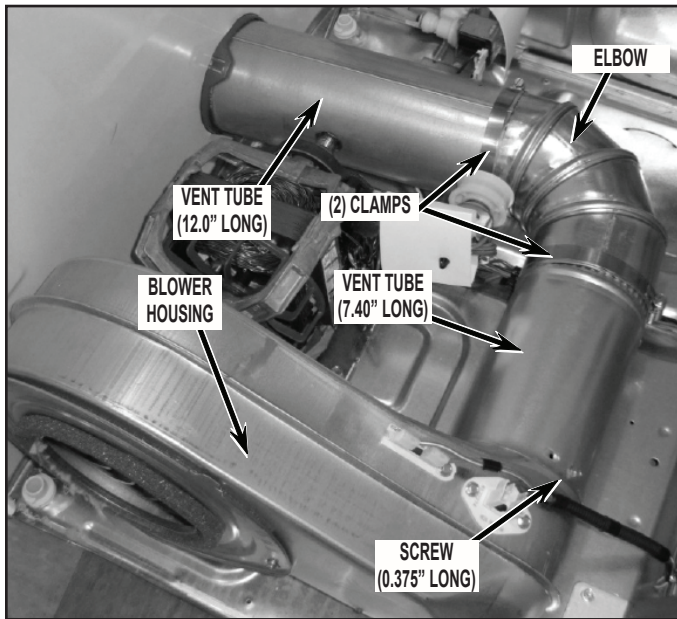
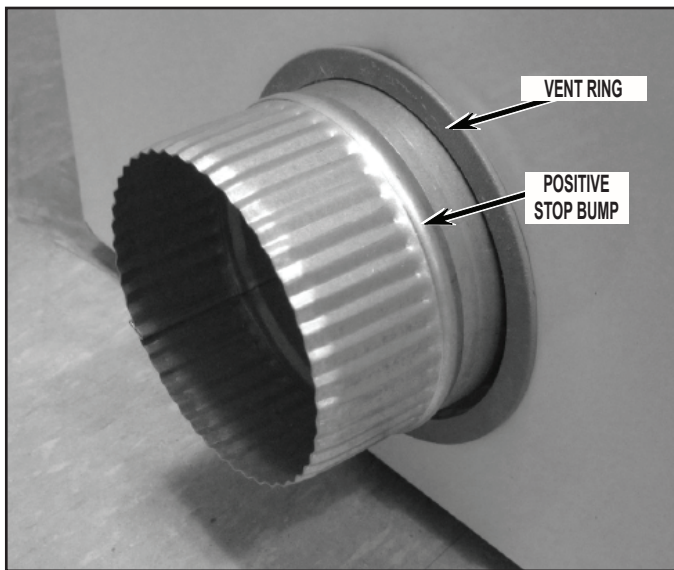

FIGURE 29
FIGURE 30
- Attach the 305 mm (12.0") long vent tube and elbow from kit together using clamp included in kit. Tighten clamp to hold sub assembly together. See *Figure 29*.
- Insert the sub-assembly from Step #5 into the left side knockout hole, rib-end facing out. Slide a clamp onto the elbow and attached elbow end to the 187 mm (7.40") vent tube already in the dryer. See *Figure 29*.
- From the outside of the dryer, install the vent ring included with kit by sliding over exhaust vent tube and snap into place. See *Figure 30*.
- Assure the positioning of the exhaust vent assembly, making sure the positive stop bump on the 305 mm (12.0") long vent tube is on the outside of the dryer. See *Figure 30*. Securely tighten both clamps. See *Figure 29*.